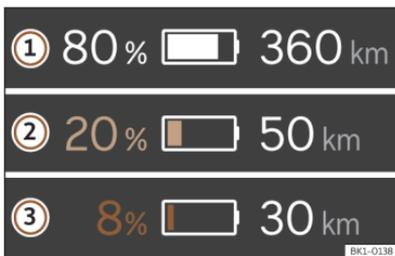

Fig. 20 On the digital instrument cluster: range and reserve indication.
The current state of charge of the high-voltage battery is indicated by the symbol on the digital instrument cluster >>> **Fig. 20** ①. The battery symbol will be more or less full depending on the state of charge of the battery.
The vehicle range is displayed in kilometres (km) or miles (mi) depending on the selected setting >>> **Fig. 20** ②.
Reserve area >>> **Fig. 20**